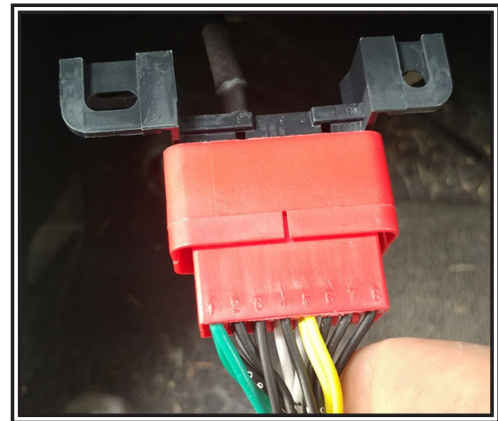

Figure 3
Step 3. Connect the mating end of the OBDII Harness to the removed OEM OBD connector as seen in FIGURE 3.
Step 4. Secure the connection between the two (2) connectors from step 3, possibly by using a tie wrap.
Step 5. Place the Code 3 OBD connector in the location that the OEM OBD connector originally occupied and, using the two (2) hex screws removed in Step 2, attach the connector to the vehicle. Tighten the screws to the torque value recorded in Step 2.